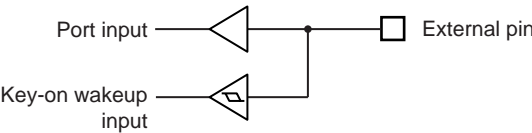

Figure 18-2 Key-on Wakeup Input and Port Input
- Note 3: The input circuit of Key-on Wakeup input and Port input is separated, so each input voltage threshold value is different. Therefore, a value comes from port input before STOP mode start may be different from a value which is detected by Key-on Wakeup input (Figure 18-2).